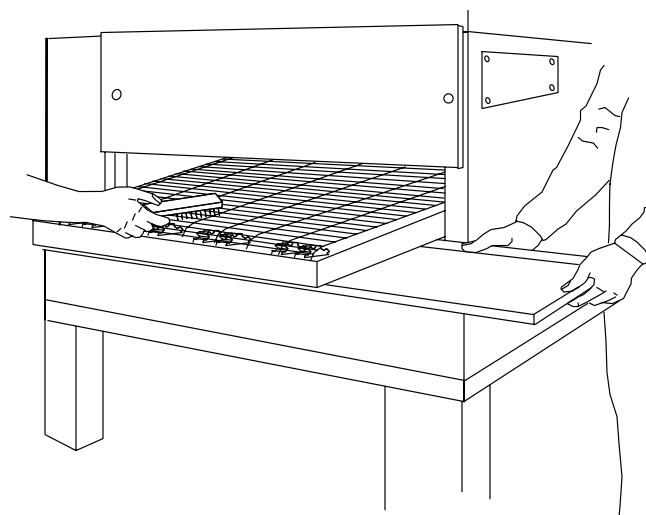

Figure 4-2. Conveyor Belt and Crumb Pan Cleaning
C. Conveyor Belt (Figure 4-2)
D. Crumb Pans (Figure 4-2)
Remove and clean the crumb pan at each end of the oven. Each crumb pan can be removed by sliding it out, as shown in Figure 4-2. Reinstall the crumb pans after cleaning.
1. Remove crumb pans as shown in Figure 4-2.